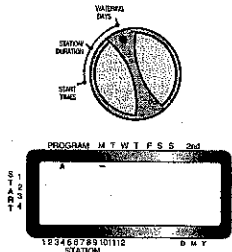

Figure 7: LCD Display with Watering Days
- ◆ Turn the rotary dial to **Watering Days** in program A. The display will show an "A" and the cursor will blink under the days of week M, T, W, T, F, S, S (Monday, Tuesday, etc.) [See Figure 7].